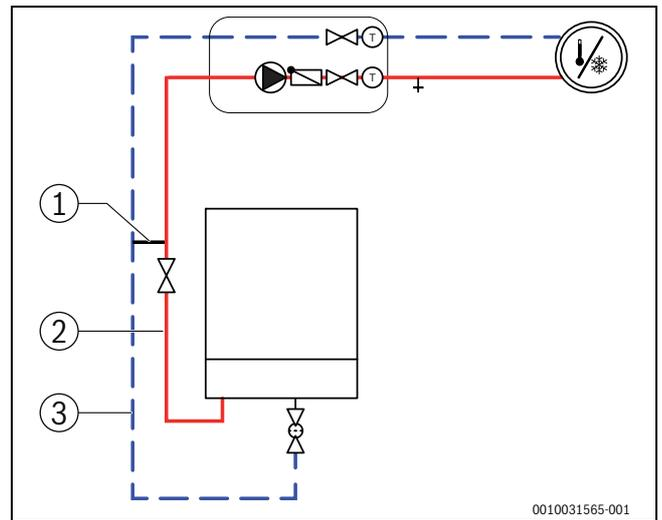

Fig. 9 Indoor unit with heating circuit and bypass
- ▶ Install the bypass [1] between the flow [2] and return [3] (→Fig. 9), to hydraulically uncouple the heating pump from the heating circuit. Observe the prescribed dimensions and clearances during assembly (→Tab. 8).